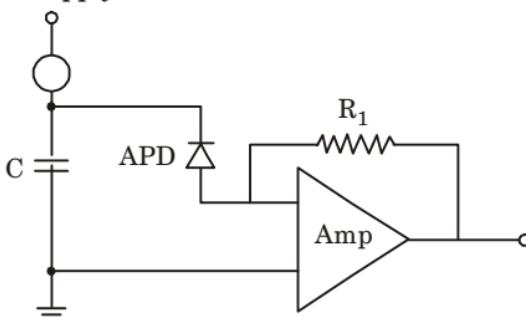

Fig. 8.
2. One simple method of providing AGC is to bias Avalanche photodiode (APD) with a constant d.c. current source bias, as shown in Fig. 8. APD bias supply.